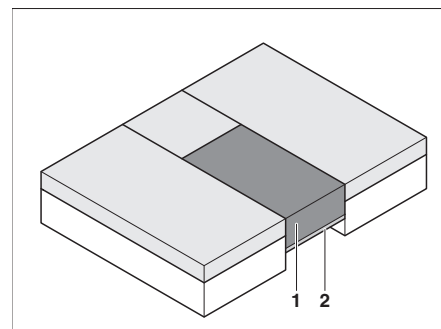

Fig. 84 After conversion
- Place the additional cushion (Bild 84,1) on the extended slatted frame (Bild 84,2).